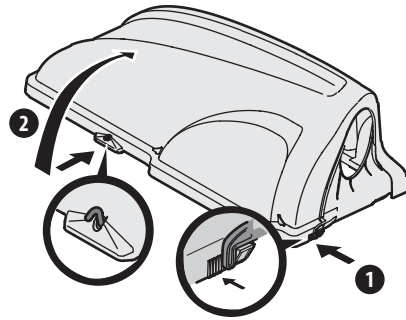

Figure 23
2. Lift up bagger cover by pushing in on the rear, right-side tab with your right hand, as seen in (1) of Figure 23, and lifting the cover with your left hand in the center rear of the bagger cover, (2).